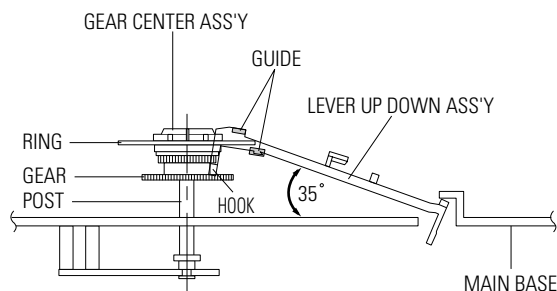

Fig. 1-23 Lever Up Down Ass'y Removal
- 1) Insert the Lever Up Down Ass'y ❶ in the rectangular holes on Main Base as shown in Fig 1-23.
- 2) Lift the Lever Up Down Ass'y ❶ about 35°.
(Refer to Fig 1-23)